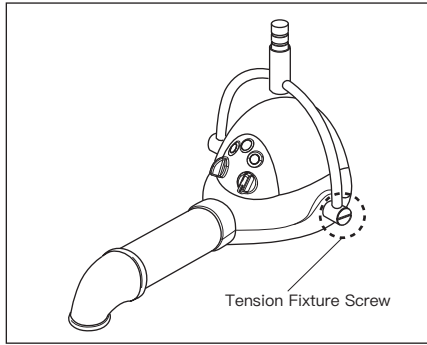

Fig. 7
7. The dryer windpipe fixture angle could be adjusted by moving the windpipe up and down easily. After long time operation, the joint between the dryer head and hanging ear may get loose. When finding the tension screws on both sides get loose, turning the slot on it clockwise could tighten the screws. (See Fig.7) .